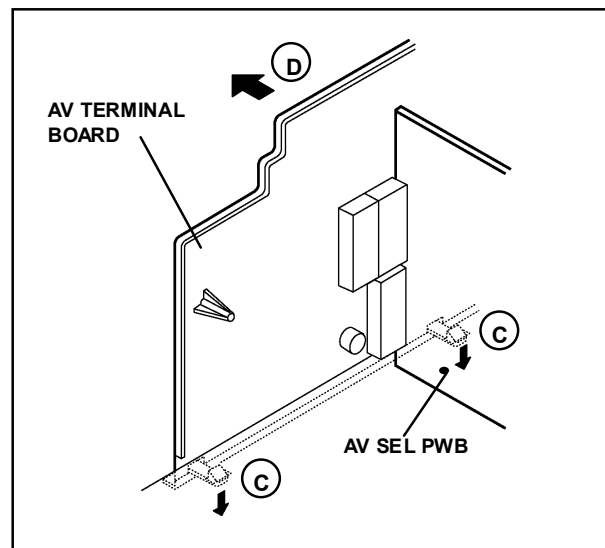

Fig. 2
2. Remove the claws marked (C) under the CHASSIS as shown in Fig. 2.
3. Slightly in the direction of arrow (D) as shown in Fig. 2.